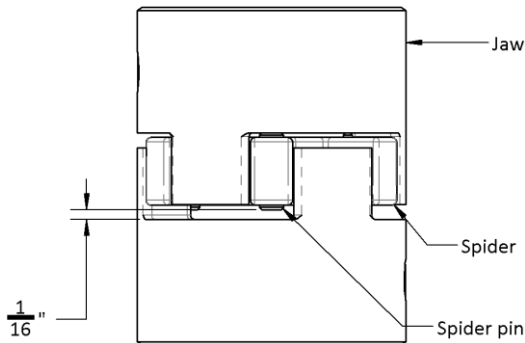

Figure 15 - Jaw coupling installation.
1. Make sure that there is a $\frac{1}{16}$ " clearance between the spider pins and the coupling jaws (shown in Figure 15 below).